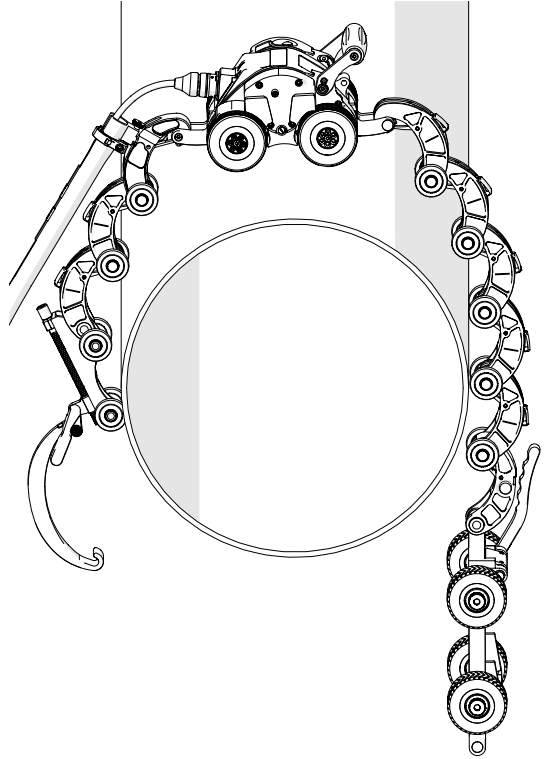

Fig. 90 - Place system on pipe/tube
8. Drape the configured system around the pipe/tube to be inspected (Fig. 90).